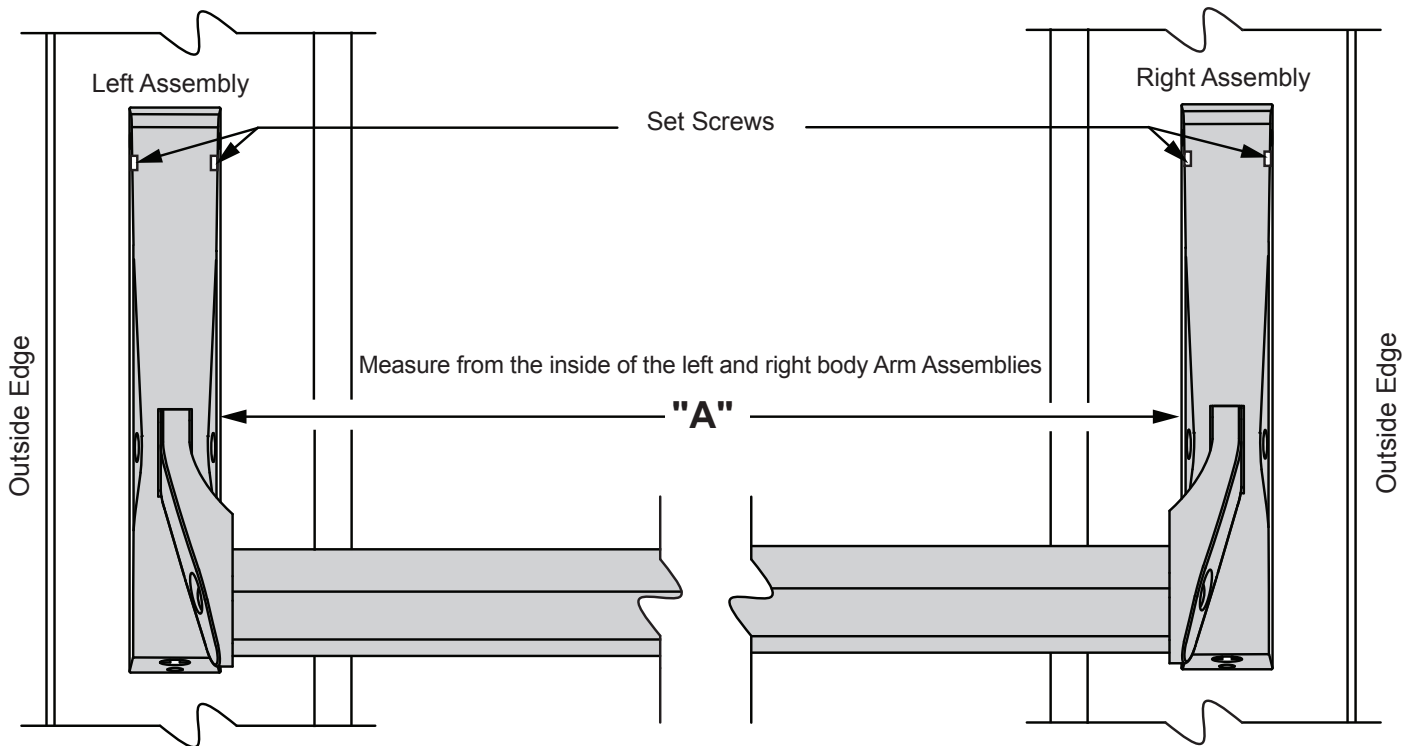

FIG. 9
1. Measure the Panic Bar from the inside edge of the left side body arm assembly to the inside edge of the right side body arm assembly as shown on Figure 9.
2. Cut and debur the Panic Bar to dimension "A". (Fig. 9)